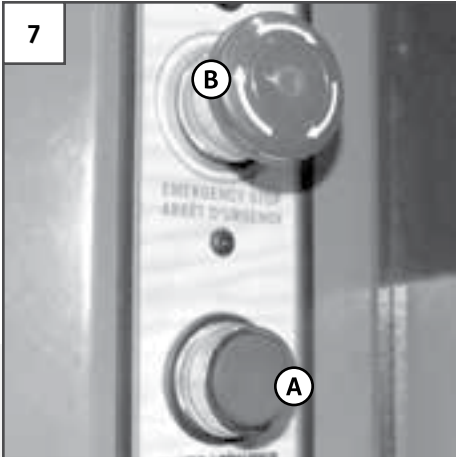

FIGURE 7: MAGNETIC SAFETY SWITCH
This machine is equipped with a magnetic safety switch designed to protect the user from unintentional startup. The switch assembly features a green **START BUTTON (A)** and a red spring-loaded **STOP BUTTON (B)**. Once the **STOP BUTTON** has been pressed, restart the planer by turning the inner part of the button to the right. This releases the stop button. See Figure 7.